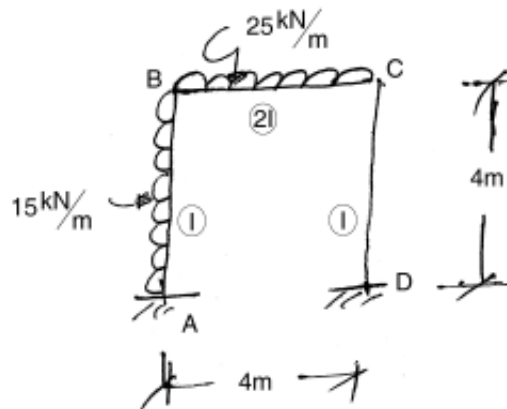

Figure 4
5. Analyse the frame as shown in figure 4 by stiffness method. Draw BMD. 12